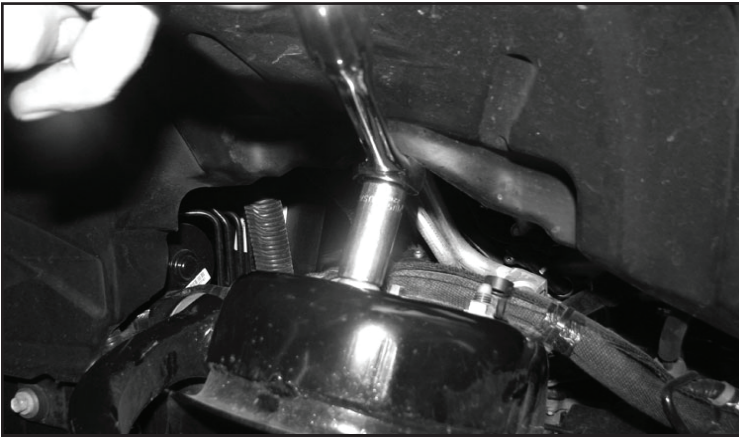

FIGURE 6 - STEP 7
7. Remove the (3) upper coilover nuts from the coilover tower bracket. Save for re-installation. **SEE FIGURE 6**